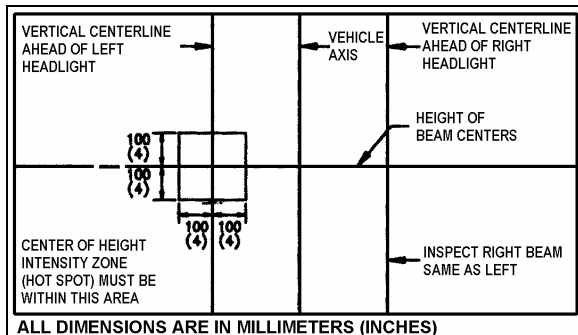

FIGURE 49: AIM INSPECTION LIMITS FOR UPPER-BEAM HEADLIGHTS 06505
7. The inspection limits for high-beam headlights shall be with the center of the high-intensity zone from 10 cm (4 inch) up to 10 cm (4 inch) down; and, from 10 cm (4 inch) left to 10 cm (4 inch) right on a screen at 7.6 m (25 ft.) (Figure 49).